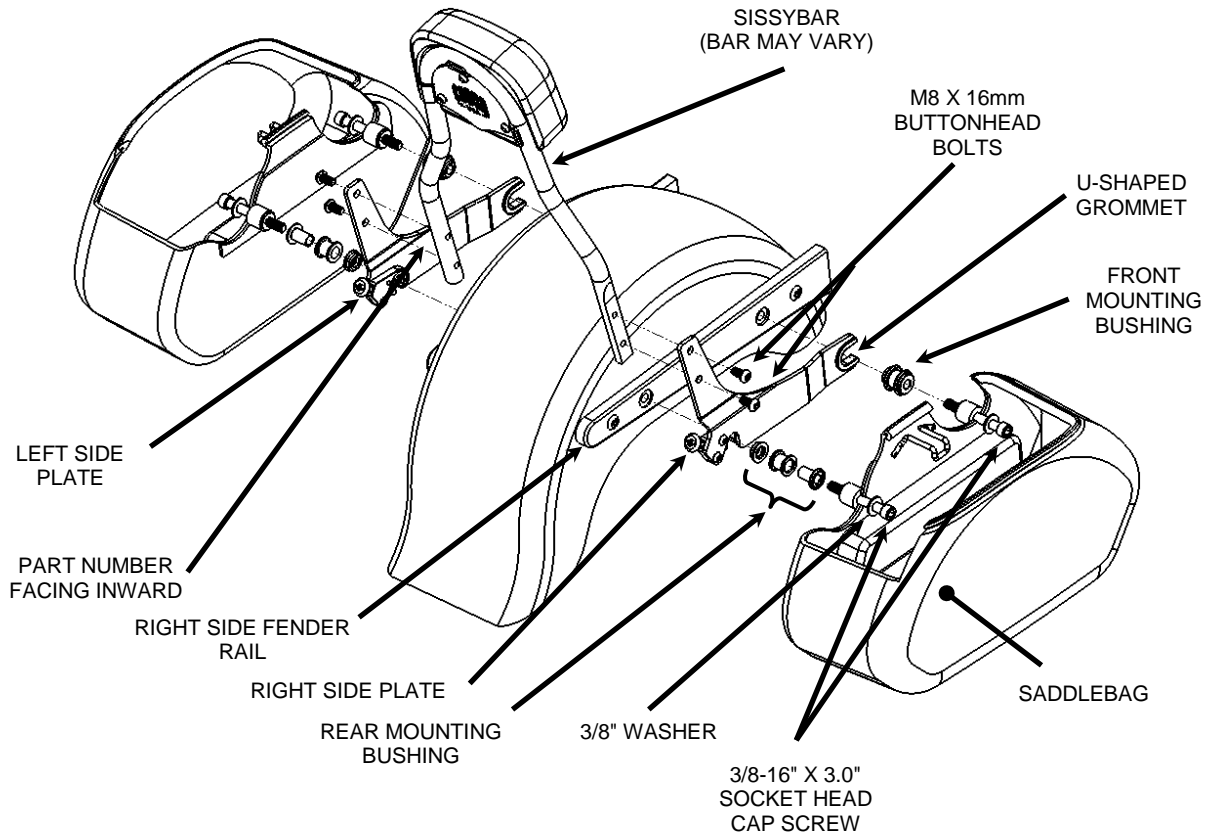

FIGURE 2
2. Remove the o-rings from the front and rear screws and remove the stock inner spacers (the one closer to the fender rail), and stock bolts from the saddlebags. Insert (1) of the supplied 3/8-16 X 3.0" screws through (1) supplied 3/8" washer, the front saddlebag mount hole and the supplied front backrest bushing, see **Figure 2**. Insert (1) of the supplied 3/8-16 X 3.0" screws through (1) supplied 3/8" washer, the rear saddlebag mount hole and the supplied rear backrest bushing. Place sufficient blue loctite on both screws. Do not install original o-rings. Reinstall the right bag carefully on to the lower front mount and then thread in the new screws being sure the spacers are in place correctly and centered in the fender rail. Snug the bolts but do not fully tighten at this time.
3. Repeat, Steps 1 and 2 for left side saddlebag using **Figure 2**, be sure to orientate all parts correctly.
4. Install the supplied side plates on to the sissy bar with the four M8 X 16mm button head bolts. Make sure the u-shaped grommets are facing the same direction as the sissy bar pad, (forward) and the part numbers are facing inward on the left and right side toward the motorcycle fender rails. See **Figure 2**. Snug the bolts but **DO NOT TIGHTEN** at this time.